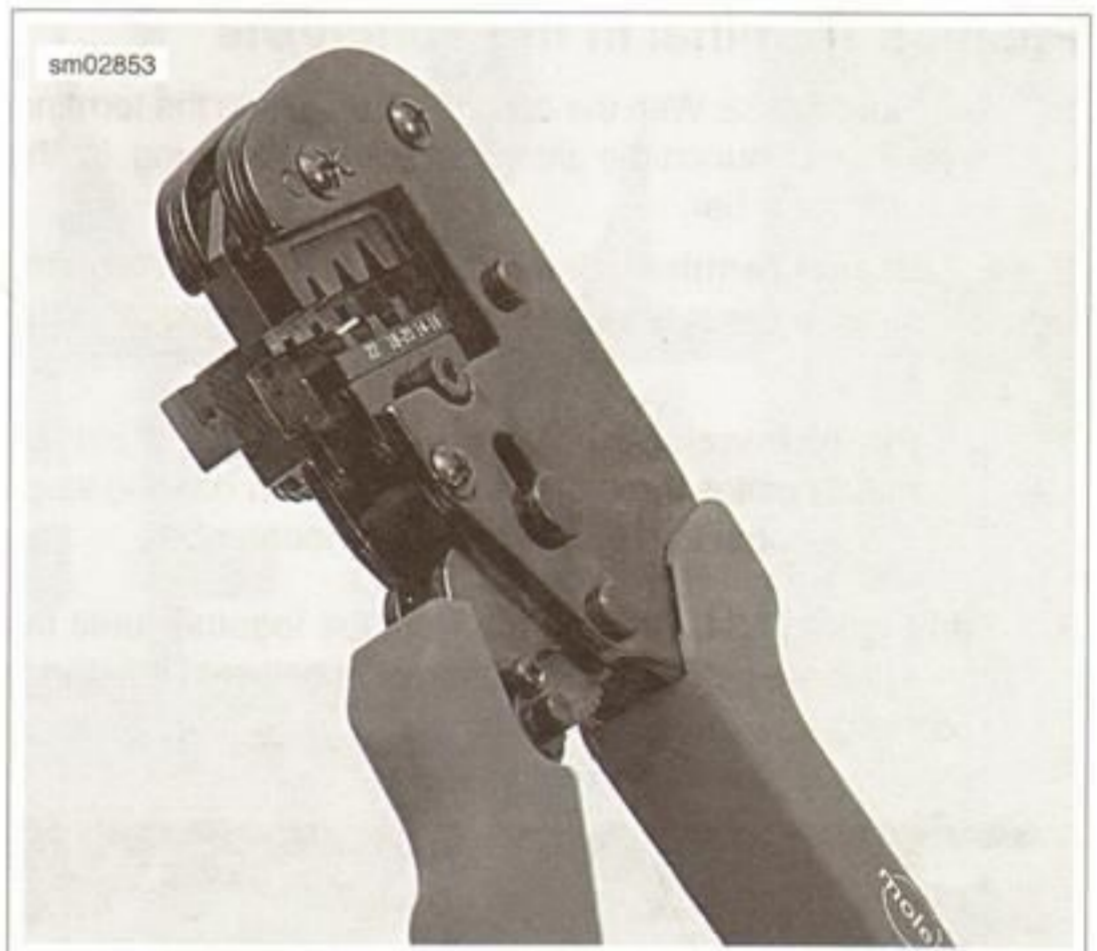

Figure A-30. Open Electrical Crimp Tool (HD-48119) at 45 Degrees
3. See Figure A-30. Hold fully open tool at approximately 45 degrees.